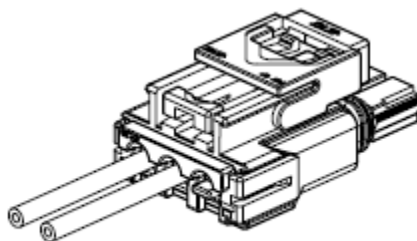

Figure 16
5. Assemble back cover to housing and ensure that locking latches for the back cover are engaged. See Figure 16.